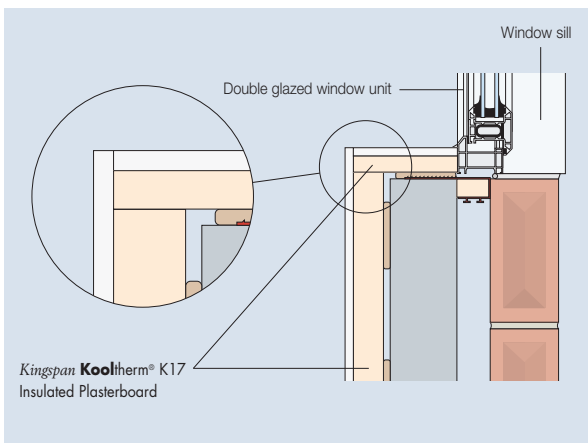

Figure 10 – Insulated reveal and external corner
- The use of a thinner sheet of *Kingspan Kooltherm® K17 Insulated Plasterboard* at reveals may be necessary (see Figure 10).